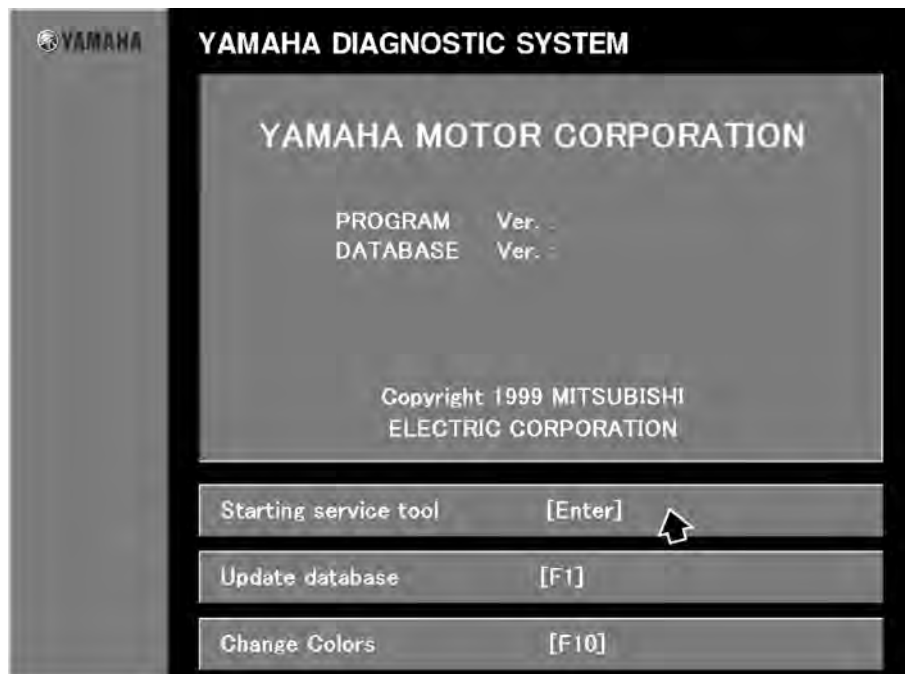

Fig. 58
1. With the adapter disconnected, start up the Yamaha Diagnostic System on your computer. Then click the **Starting service tool [Enter]** button, or hit the Enter key. (Fig. 58)